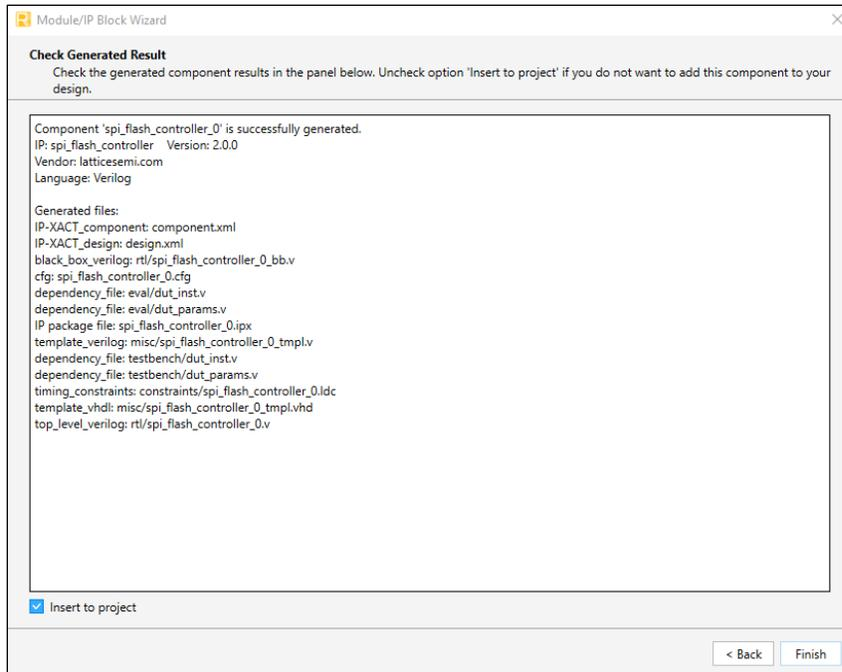
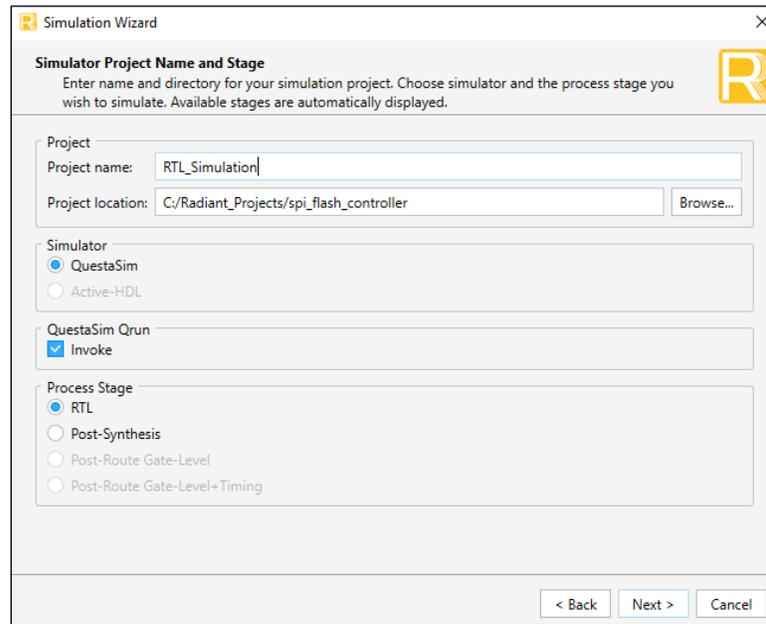
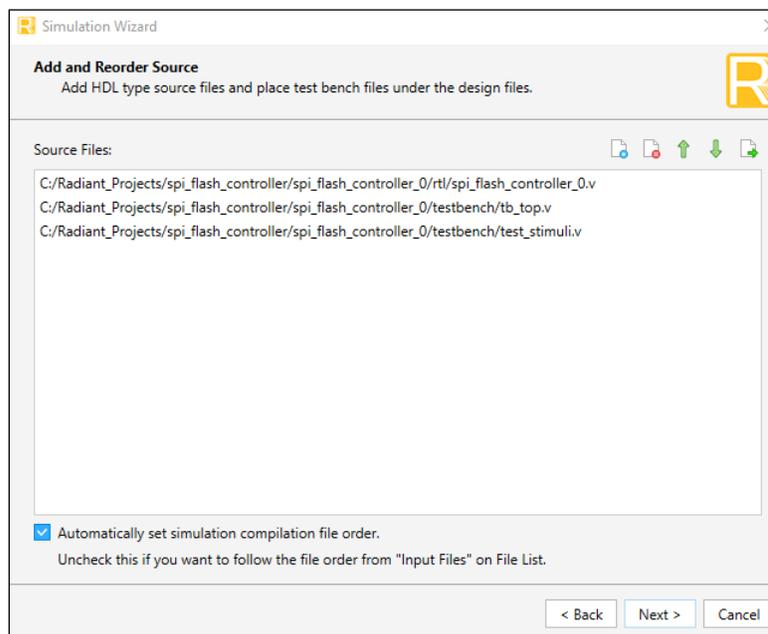

Figure 7.3. Check Generated Result
Figure 7.4. Simulation Wizard
Figure 7.5. Add and Reorder Source
4. Click **Generate**. The **Check Generated Result** dialog box opens, showing design block messages and results (Figure 7.3).
1. Click the  icon located on the **Toolbar** to initiate the **Simulation Wizard** shown in Figure 7.4.
2. Click **Next** to open the **Add and Reorder Source** window, as shown in Figure 7.5.
| Designing with the IP | <ul style="list-style-type: none"> Updated Figure 7.1. Module/IP Block Wizard, Figure 7.2. Configure User Interface of SPI Flash Memory Controller IP Core, Figure 7.3. Check Generated Result, Figure 7.4. Simulation Wizard, and Figure 7.5. Add and Reorder Source. Removed the IP Evaluation section. |